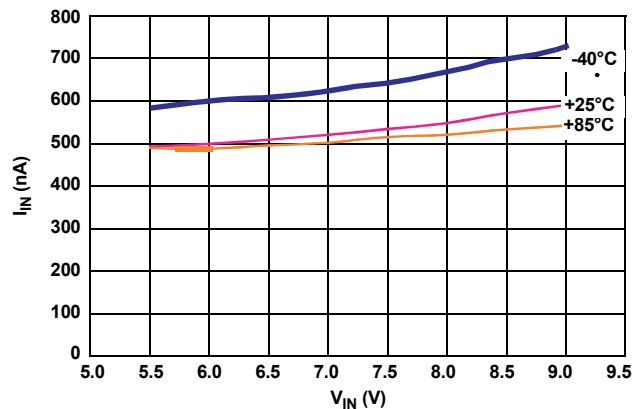

FIGURE 29. I_{IN} vs V_{IN}
| 3/31/10 | FN8137.3 | <p>Throughout- Converted to new format. Changes made as follows: Moved "Available Options", "Pin Configuration" and "Pin Descriptions" to page 2 Added "Related Literature*(see page 16)" to page 1 Added key selling feature graphic Figure 1 to page 1 Added MSL note to "Ordering Information" table on page 3 Added "Boldface limits apply..." note to common conditions of Electrical Specifications tables on page 4 and page 5. Bolded applicable specs. Added Note 11 to MIN MAX columns of all Electrical Specifications tables. Added Latch Up to "Absolute Voltage Ratings" on page 4 Added Junction Temperature to "Thermal Information" on page 4 Added JEDEC standards used at the time of testing for "ESD Ratings" on page 4 Added "Revision History" on page 15 and "Products" on page 16 Updated package outline drawing on page 17 to new format by adding land pattern and moving dimensions from table onto drawing</p> <p>Removed retired devices from "Ordering Information" table on page 3 and "Available Options" on page 2 as follows: X60003BIG3-41T1 X60003CIG3-41T1 X60003DIG3-41T1 X60003BIG3-50T1 X60003CIG3-50T1 X60003DIG3-50T1</p> <p>Added the following to page 4: "Environmental Operating Conditions X-Ray Exposure (Note 4).....10mRem Note 4. Measured with no filtering, distance of 10" from source, intensity set to 55kV and 70mA current, 30s duration. Other exposure levels should be analyzed for Output Voltage drift effects. See "Applications Information" on page 10.</p> <p>"Thermal Information" on page 4: Changed Theta JA from 202.70 to 375. Added Theta JC of 110 and applicable note (measured at top of package).</p> <p>In Figures 1, 3, 5 and 30, changed the color to Dark Blue (Unit 3), Black (Unit 2), and Dark Green (Unit 1). Changed name of Unit 3 to High, Unit 2 to Typ and Unit 1 to Low. Figure 4. Changed the colors to Dark Blue (85), Black (25), and Dark Green (-40). Figure 29. Increased the Y-axis to 800nA.</p> <p>Added "Handling and Board Mounting" on page 12</p> |